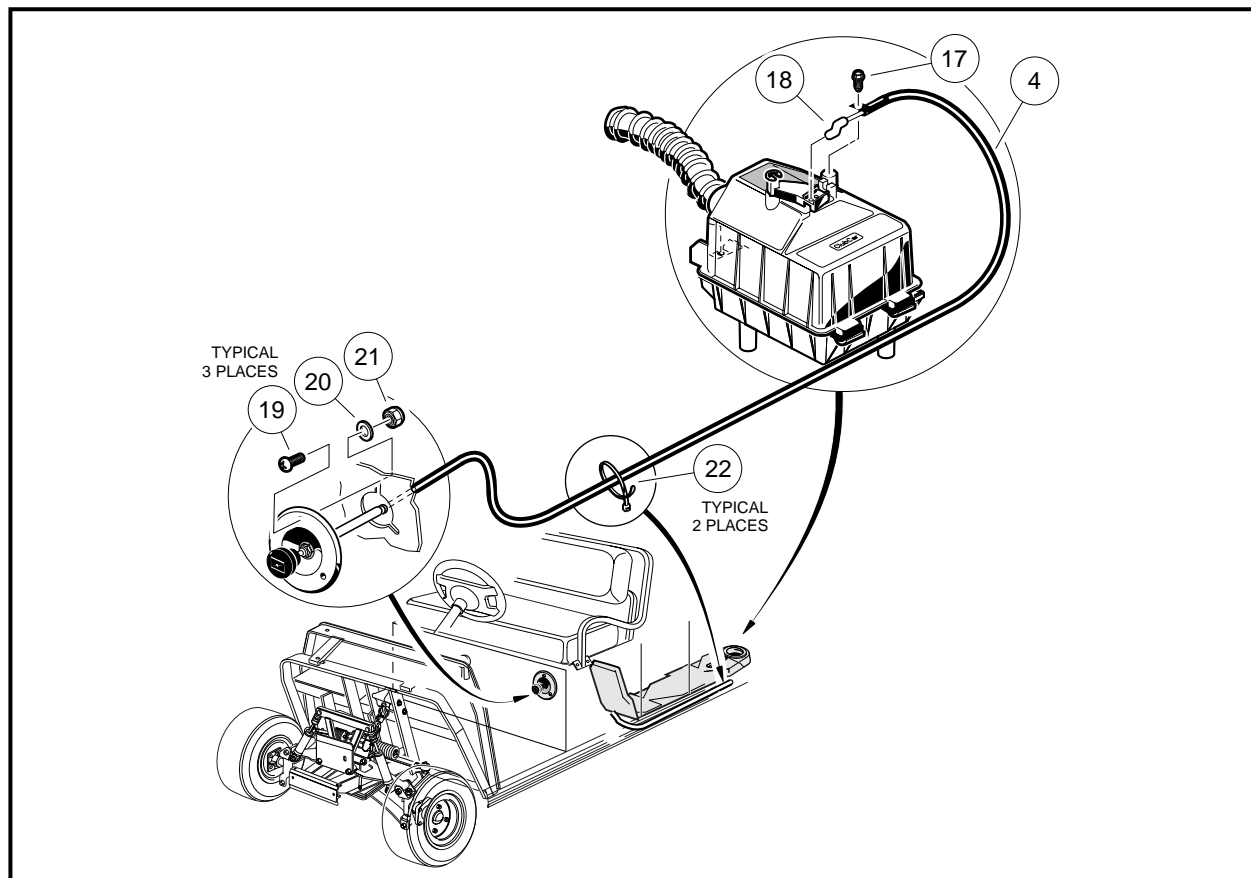

Figure 4-6 Villager 6 and 8 Choke Cable
8. Remove the screw (17) securing the choke cable to the air box and detach cable end (18) from choke lever (**Figure 4-6, Page 4-6**).
9. Remove the wire ties (22) that secure choke cable to the vehicle frame (**Figure 4-6, Page 4-6**).
10. Remove three screws (19), nuts (21) and washers (20) from body and remove choke cable assembly from body (**Figure 4-6, Page 4-6**).
8. Install three screws (19), washers (20), and locknuts (21) as shown and tighten to 18 in-lb (2.0 N·m) **(Figure 4-6, Page 4-6)**.
10. Attach choke cable to choke lever on air box. Install screw (17) to secure cable to air box and tighten to 18 in-lb (2.0 N·m) **(Figure 4-6, Page 4-6)**.